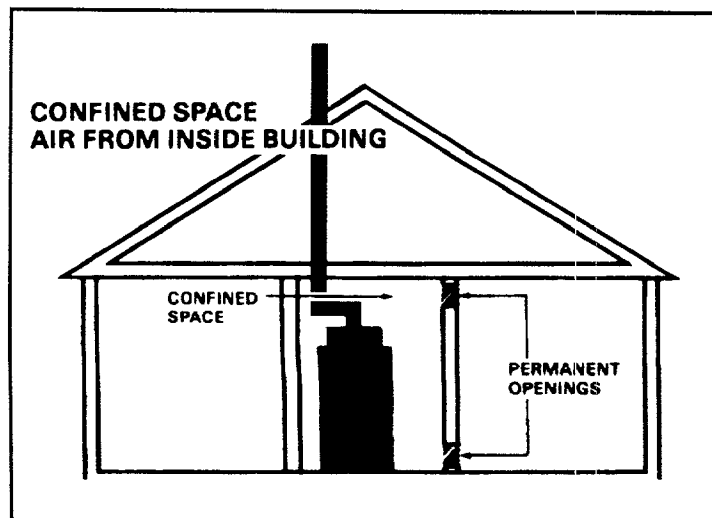
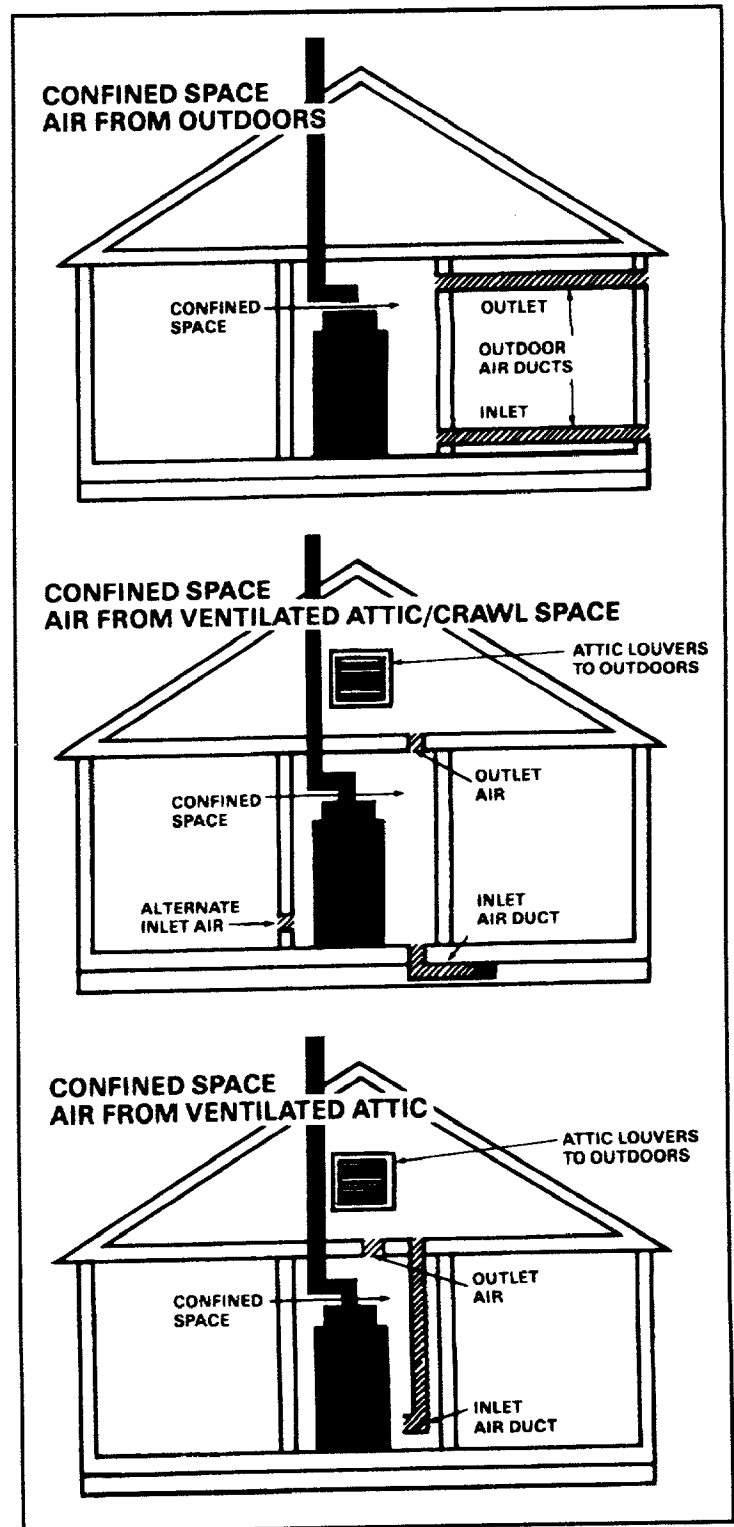

FIGURE 6
FIGURE 7
Confined spaces are installations with less than 50 cu. ft. of space per 1000 BTU/hr input from all equipment installed. Air for combustion and ventilation requirements can be supplied from inside the building as in Figure 6 or from the outdoors, as in Figure 7.
1. All air from inside the building as in Figure 6: The confined space shall be provided with two permanent openings communicating directly with an additional room(s) of sufficient volume so that the combined volume of all spaces meets the criteria for an unconfined space. The total input of all gas utilization equipment installed in the combined space shall be considered in making this determination. Refer to Table 3 for minimum open areas required.
2. All air from outdoors as in Figure 7: The confined space shall be provided with two permanent openings, one commencing within 12 inches of the top and one commencing within 12 inches of the bottom of the enclosure. The openings shall communicate directly, or by ducts, with the outdoors or spaces (crawl or attic) that freely communicate with the outdoors. Refer to Table 3, for minimum open areas required.